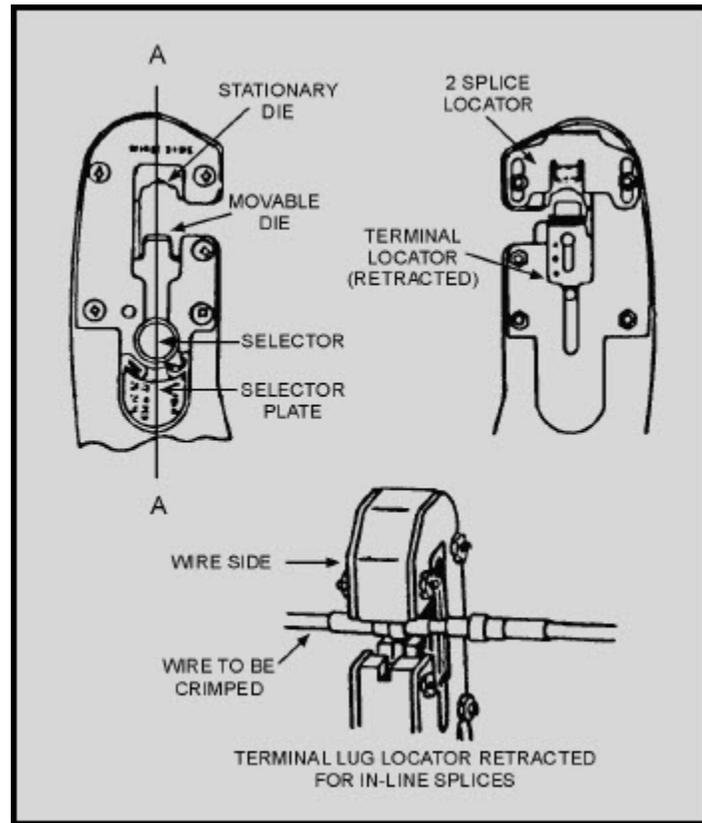

Figure 2-24 Locating splice in crimping tool
2. With the tool handles fully open, set the wire size selector knob to the proper position for the wire size being crimped. Slide the terminal lug locator down below the die surface into the fully retracted position. (See figure 2-24.) Slide the splice locator back into the retracted position. Insert the splice into the tool so that the "locating shoulder" on the side of the splice to be crimped is in the space between the two crimping dies. The insulation barrel on this side of the splice should protrude from the "wire side" of the tool. (See figure 2-24.) Slide the splice locator into the fully extended position. Insert the splice into the stationary die so that the locator "finger" fits into the locator groove in the splice.